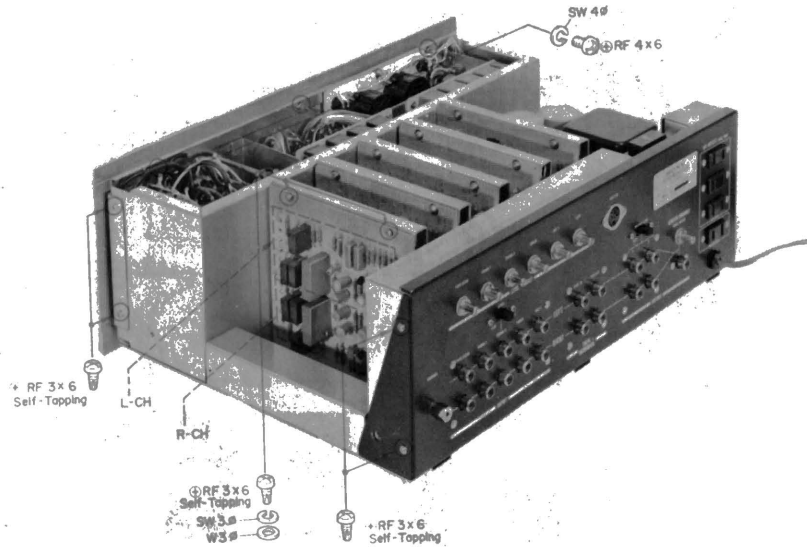

Fig. 2-2. Removal of Front-Panel Ass'y
- b. Remove the two self-tapping screws (+RF3 ϕ ×6) on each side of the chassis. See Fig. 2-2.
- Remove the three Phillips-Head screws (+RF4 ϕ \times 6) behind the top edge of the Front Panel Assembly. See Fig. 2-2.
- Remove the two self-tapping screws (+RF3 ϕ \times 6) on each side of the chassis. See Fig. 2-2.